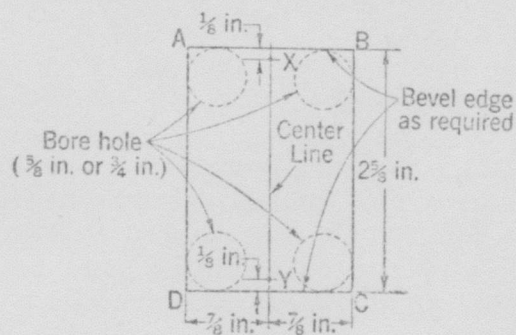

Fig. 3.
- (b) While holding cover plate as above, insert point of pencil through cover plate screw holes and mark centers of such holes on supporting surface. (Points X and Y of Fig. 3.)
- (c) Use cover plate as a straight edge and draw a straight line through points X and Y, forming line XY of Fig. 3.
- (d) Draw line DC at right angles to line XY, and lines BC and AD at right angles to line DC. Then draw line AB. The cover plate may also be used as a right angle. Dimensions of all lines should be in accordance with Fig. 3.
- (e) Bore holes within the rectangle ABCD at points A, B, C and D and then saw out the wood which remains in rectangle with a keyhole or compass saw. To insure a flush fit it may be necessary to bevel edges of hole as indicated by Fig. 3.